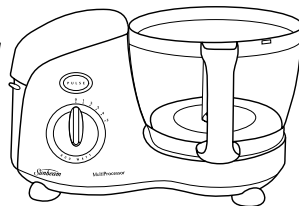

Fig 2
2. Position the processing bowl over the drive shaft. The handle of the bowl needs to be facing you and the bowl should now be resting on the base of the food processor, see Figure 2.
1. Fit the processor bowl and spindle as detailed previously in Figures 2, 3 & 6.
1. Fit the processor bowl and spindle as detailed previously, in Figures 2, 3 & 6.
2. Fit the processor bowl and spindle as detailed previously, in Figures 2, 3 & 6.
1. Fit the processor bowl as detailed previously in Figures 2 & 3.